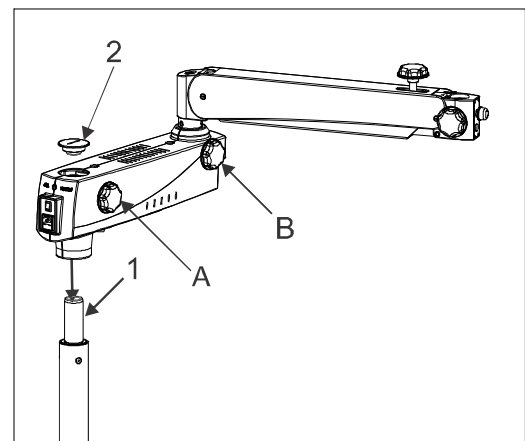

Fig. 3
7.3 Retrieve the swivel arm and suspension arm assembly from the packing box and follow instruction as below (refer Fig. 3)
Install the swivel arm assembly on the upright holding shaft (1) figure 3.